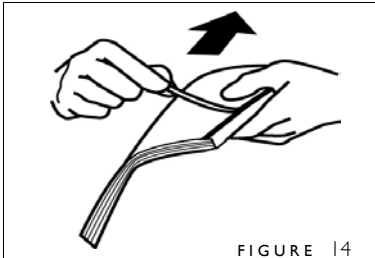

FIGURE 14
2. Peel off the thin release paper from the front of your bound book block (figure 14).